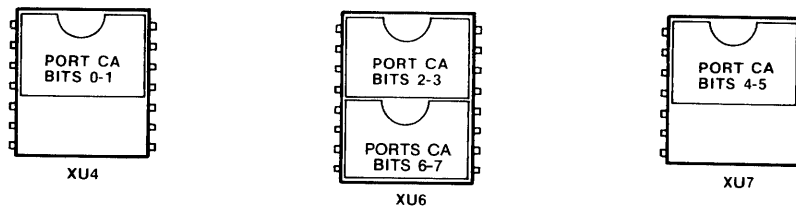
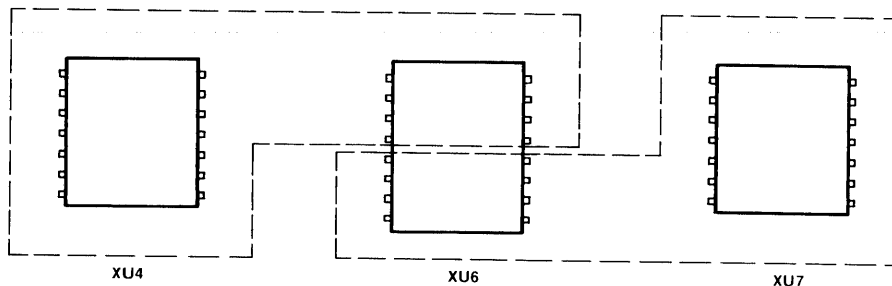

Figure 2-4. Peripheral Device Driver Installation
Figure 2-5. Port CA Logical Division
(refer to table 2-1 item 14) are inserted in XU6 (16 pin socket). One of the devices is installed in the upper portion of XU4 (14 pin socket) and one device is installed in the upper portion of XU7 (14 pin socket) as shown in figure 2-4. Parallel I/O port CA can also be configured to have one half (4 lines) configured with peripheral drivers and the other half input terminations. The sockets are logically divided as shown in figure 2-5. Socket XU4 and the upper half of XU6 make up one logical half and the bottom half of XU6 and XU7 make up the other logical half. Table 2-3 lists the jumpers that must be changed to accommodate the peripheral drivers.